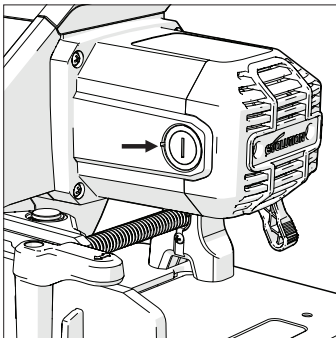

Fig. 19
- Unscrew the plastic caps found at the back of the motor. Be careful as the caps are spring-loaded. (**Fig. 19**)